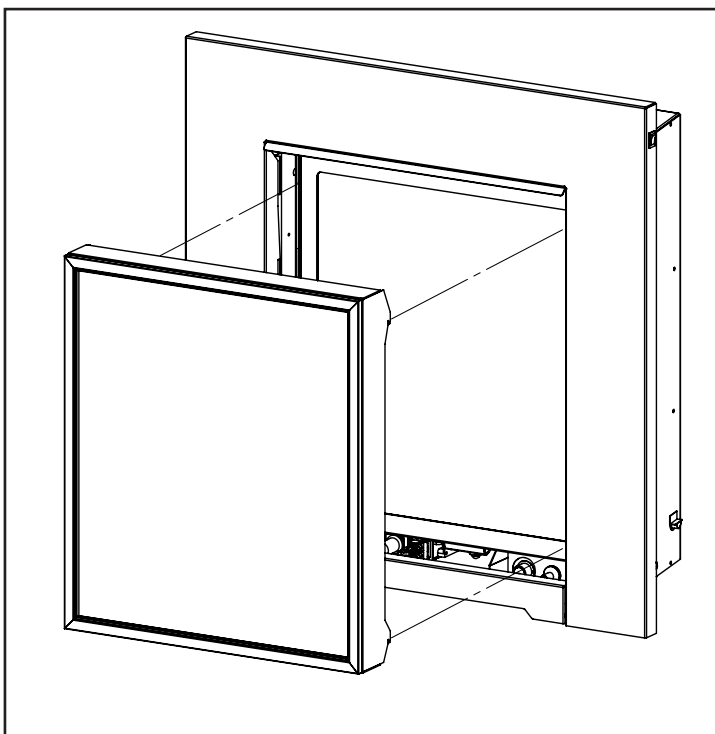

Figure 66: Installing Safety Screen onto Brackets.
2. Lift the face upright in front of the fireplace with the four (4) hooks pointing towards the fireplace. Slide the hooks into the corresponding brackets on each side of the cabinet (see Figure 66). Ensure the hooks are secure before releasing the safety screen.